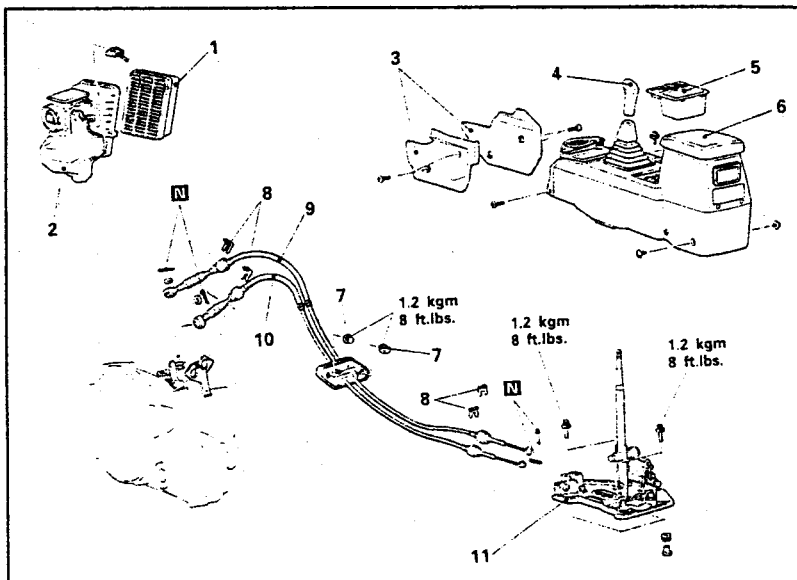

Fig. 7.7. — Exploded view of the gearchange mechanism. Remove the items in the numbered order.
All models have a cable-operated gearchange system. The component parts of the cable selector mechanism are shown in Fig. 7.7. Removal and installation can be carried out by referring to this illustration, but it should be noted that the floor console side covers, the floor console and other parts shown in the illustration must be removed in order to gain access to the cable connections.
Use the adjuster to bring the end of the cable (10) in in Fig. 7.7 in line with the shift lever, until the cable end can be connected to the lever spigot without tension.